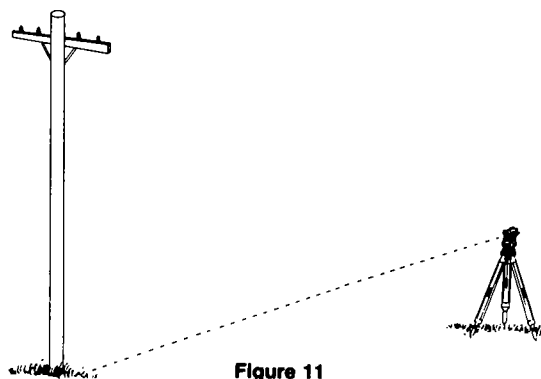

Figure 11
- 2.) Sight bottom of item to be plumbed (see Figure 11).